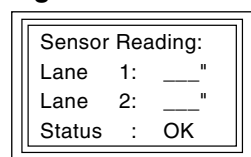

Fig. 2
1. Press and hold both MODE SELECT and LANE 1 buttons until LANE 1 SETUP appears on the display (Fig. 2).